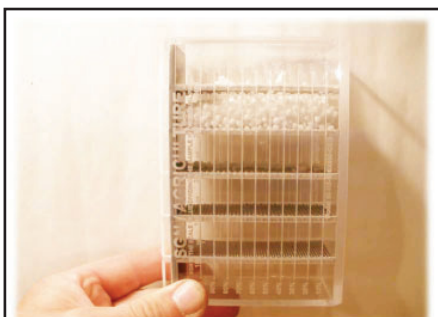

Figure 5
5. Figure 5 - Rotate scale vertical and shake to separate material, usually less than two minutes.